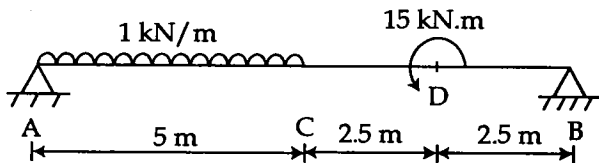

Fig. 6
- (b) Draw the Bending moment and Shear Force diagrams for the beam as shown in Fig.6 10